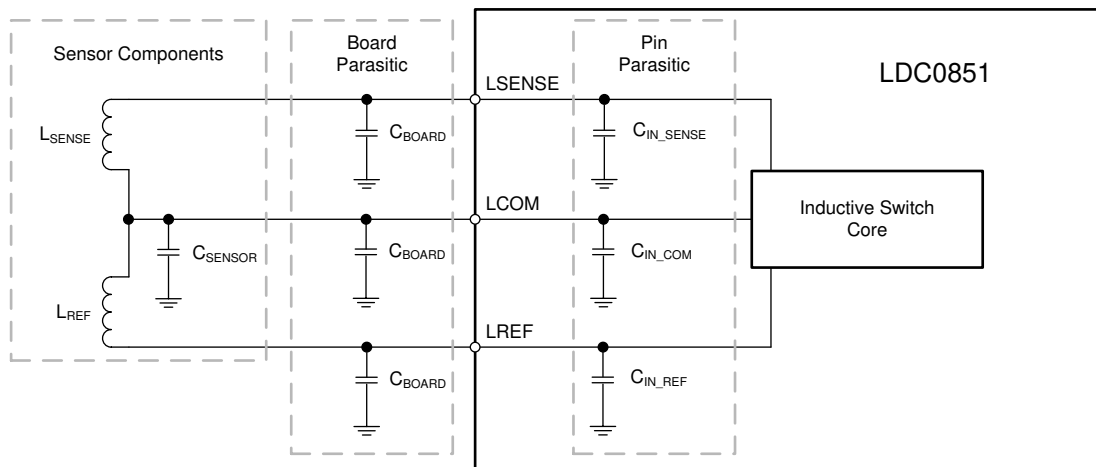

Figure 7-1. Sensor Components, Board Parasitics, and Package Parasitics Diagram
- C_{BOARD} is the parasitic capacitance of the board, see Figure 7-1
- C_{TOTAL} is sum of external sensor, board parasitic, and pin parasitic capacitances connected to LCOM, refer to Figure 7-1